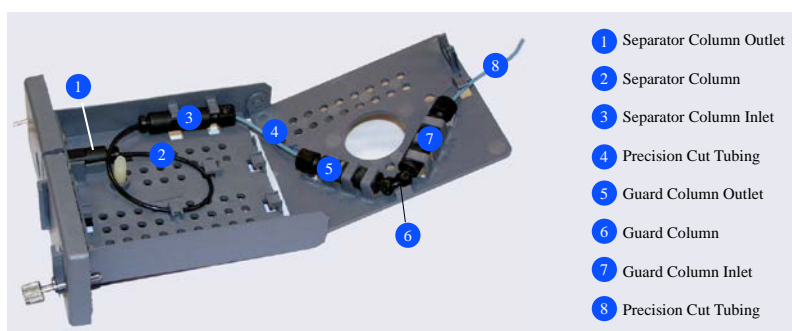
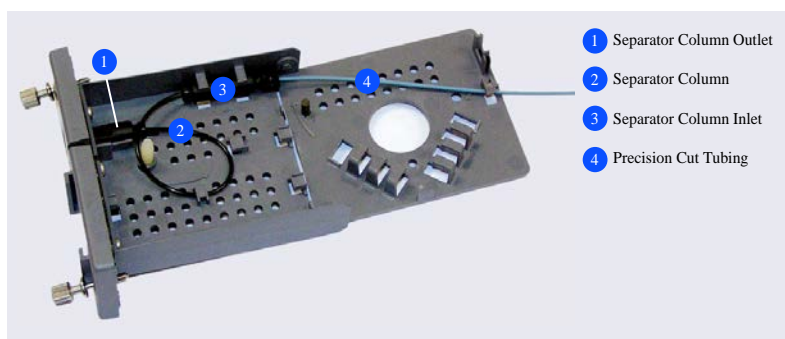

Figure 1
Figure 2
1. Before installing the new separator column, tear off the column label and slide it into the holder on the front of the cartridge (see Figure 1).
2. For reference, Figure 1 shows the column cartridge after installation of both a capillary guard column and a capillary separator column. Figure 2 shows the column cartridge after installation of only a capillary separator column.
7. Coil the separator column tubing inside the cartridge as shown in Figure 1 or Figure 2. Secure the column tubing and the inlet fitting in the clips on the column cartridge.